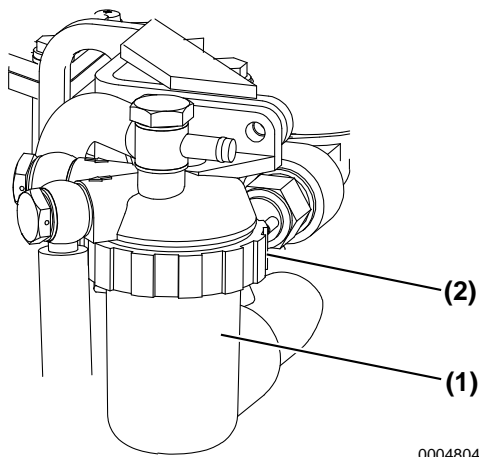

Figure 8
3. Remove the filter case by loosening the retaining ring (**Figure 8, (2)**). Turn the ring counterclockwise using a filter wrench.
4. Remove the housing (**Figure 8, (1)**) and remove the element. Replace the element with a new one.